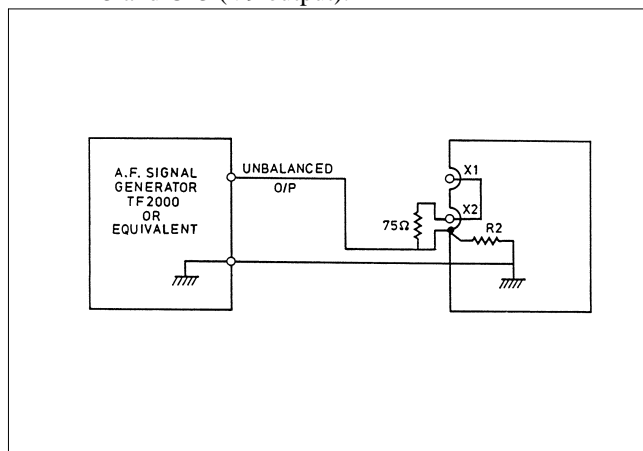

Figure 2-15 Application of Common-mode AF Signal
- c. Apply a common-mode AF signal to the amplifier input as shown in Figure 2-15.